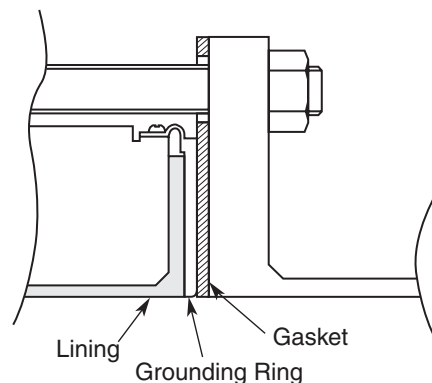

Figure 17. Installation on PVC Pipe with 316 ss Grounding Ring
1. Use this method to install the flowtube with a specified fastening torque. Install the flowtube as shown in Figure 17. The torque level for tightening the bolts is not related to the gasket material. See Table 3 for the appropriate torque. For the internal diameter of the gaskets, see Table 4.